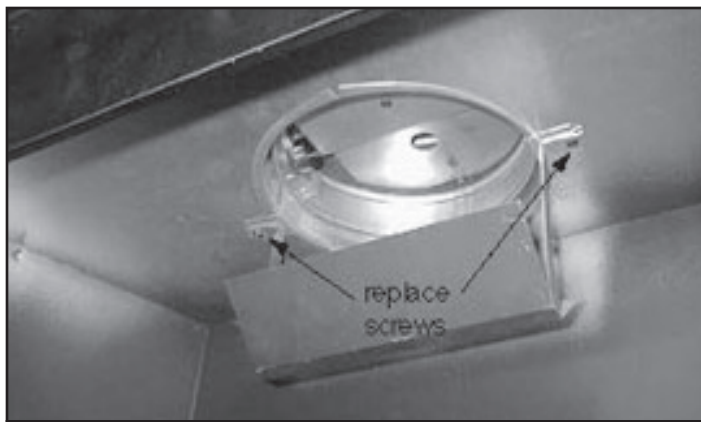

Figure 4 Attach Damper and Draft Hood
- The draft hood is to be installed upstream of the damper as close as possible to the damper without modification to the draft hood. Position the draft hood by aligning the holes in the support legs of the draft hood with the holes in the damper support legs and in the firebox top. Secure the parts with the screws removed earlier. See Figure 4.